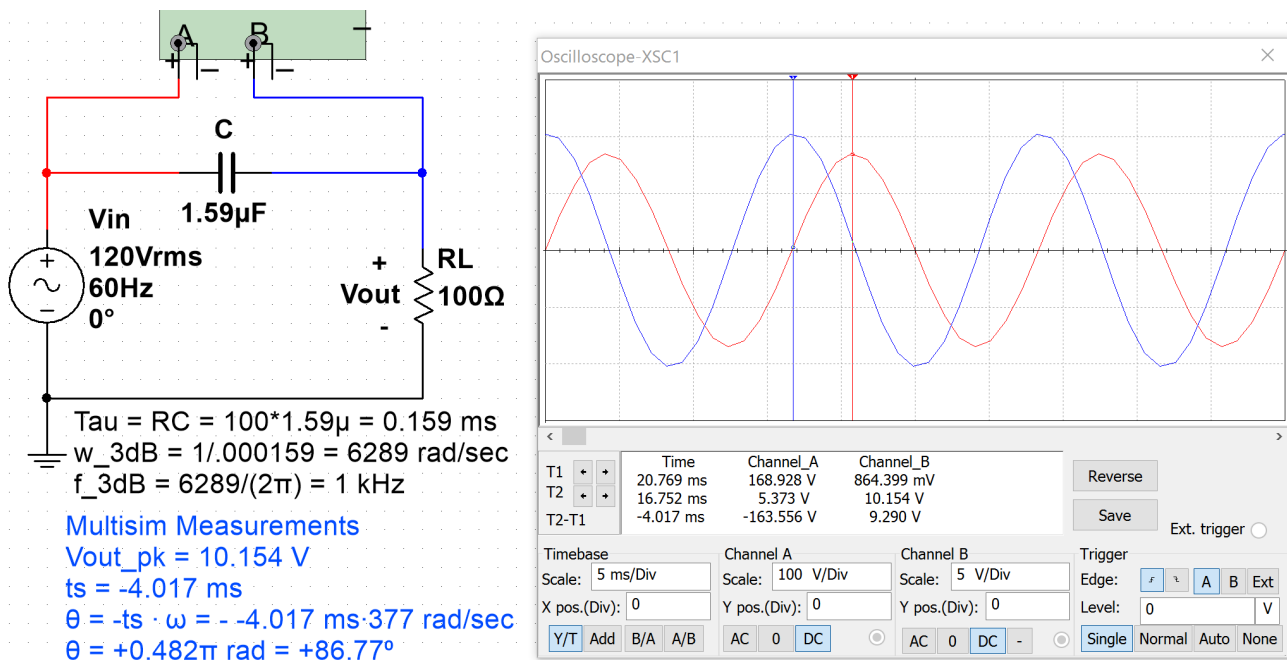

Figure 4.10: Multisim oscilloscope verification of Bode plot and calculated results of Example 4.2.
Using the Bode plot to determine the output signal is much easier than solving the problem algebraically. The following steps show how to solve this problem and the values are verified in the Multisim scope plot in Figure 4.10. The problem solving technique shown below is the same process that was performed in Section 3.2 - Series RLC Circuits. The Blue Font shows the Multisim measurements. Notice that they closely match the calculations.
- $Z_{Total} = R_L - jX_C = 100 - j1668.3$ $Z_{Total} = 1671.3 \angle -86.57^\circ \Omega$ (ICE) (Notice: V_{RL} leads V_{in} in Figure 4.10)